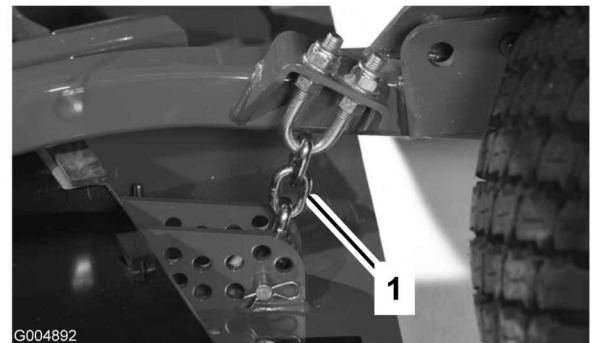

Figure 75
3. Remove the hairpin cotter and clevis pin securing the height-of-cut chains to the rear of the cutting unit (Figure 75).